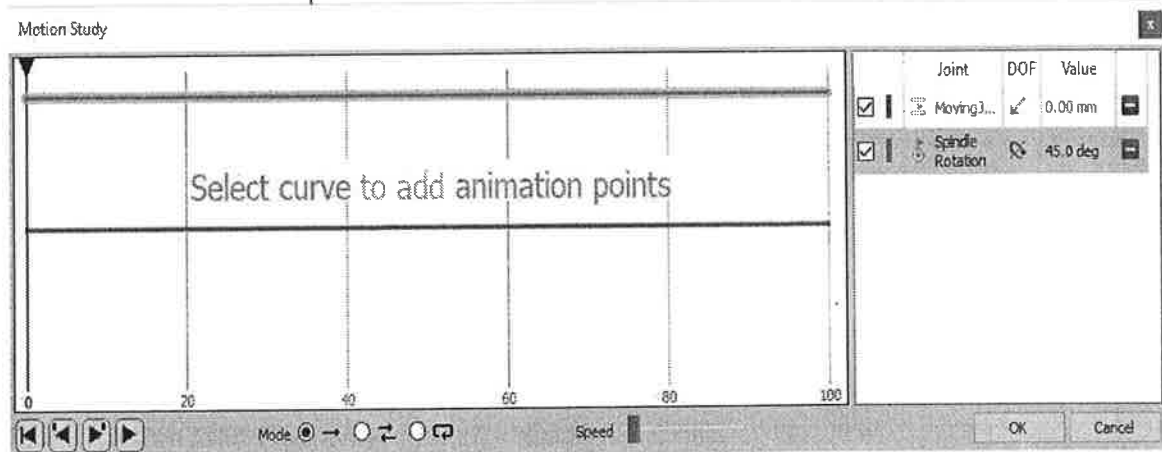

Figure 15–31
5. Note how each joint is assigned a color in the panel on the right of the dialog box, as shown in Figure 15–31.